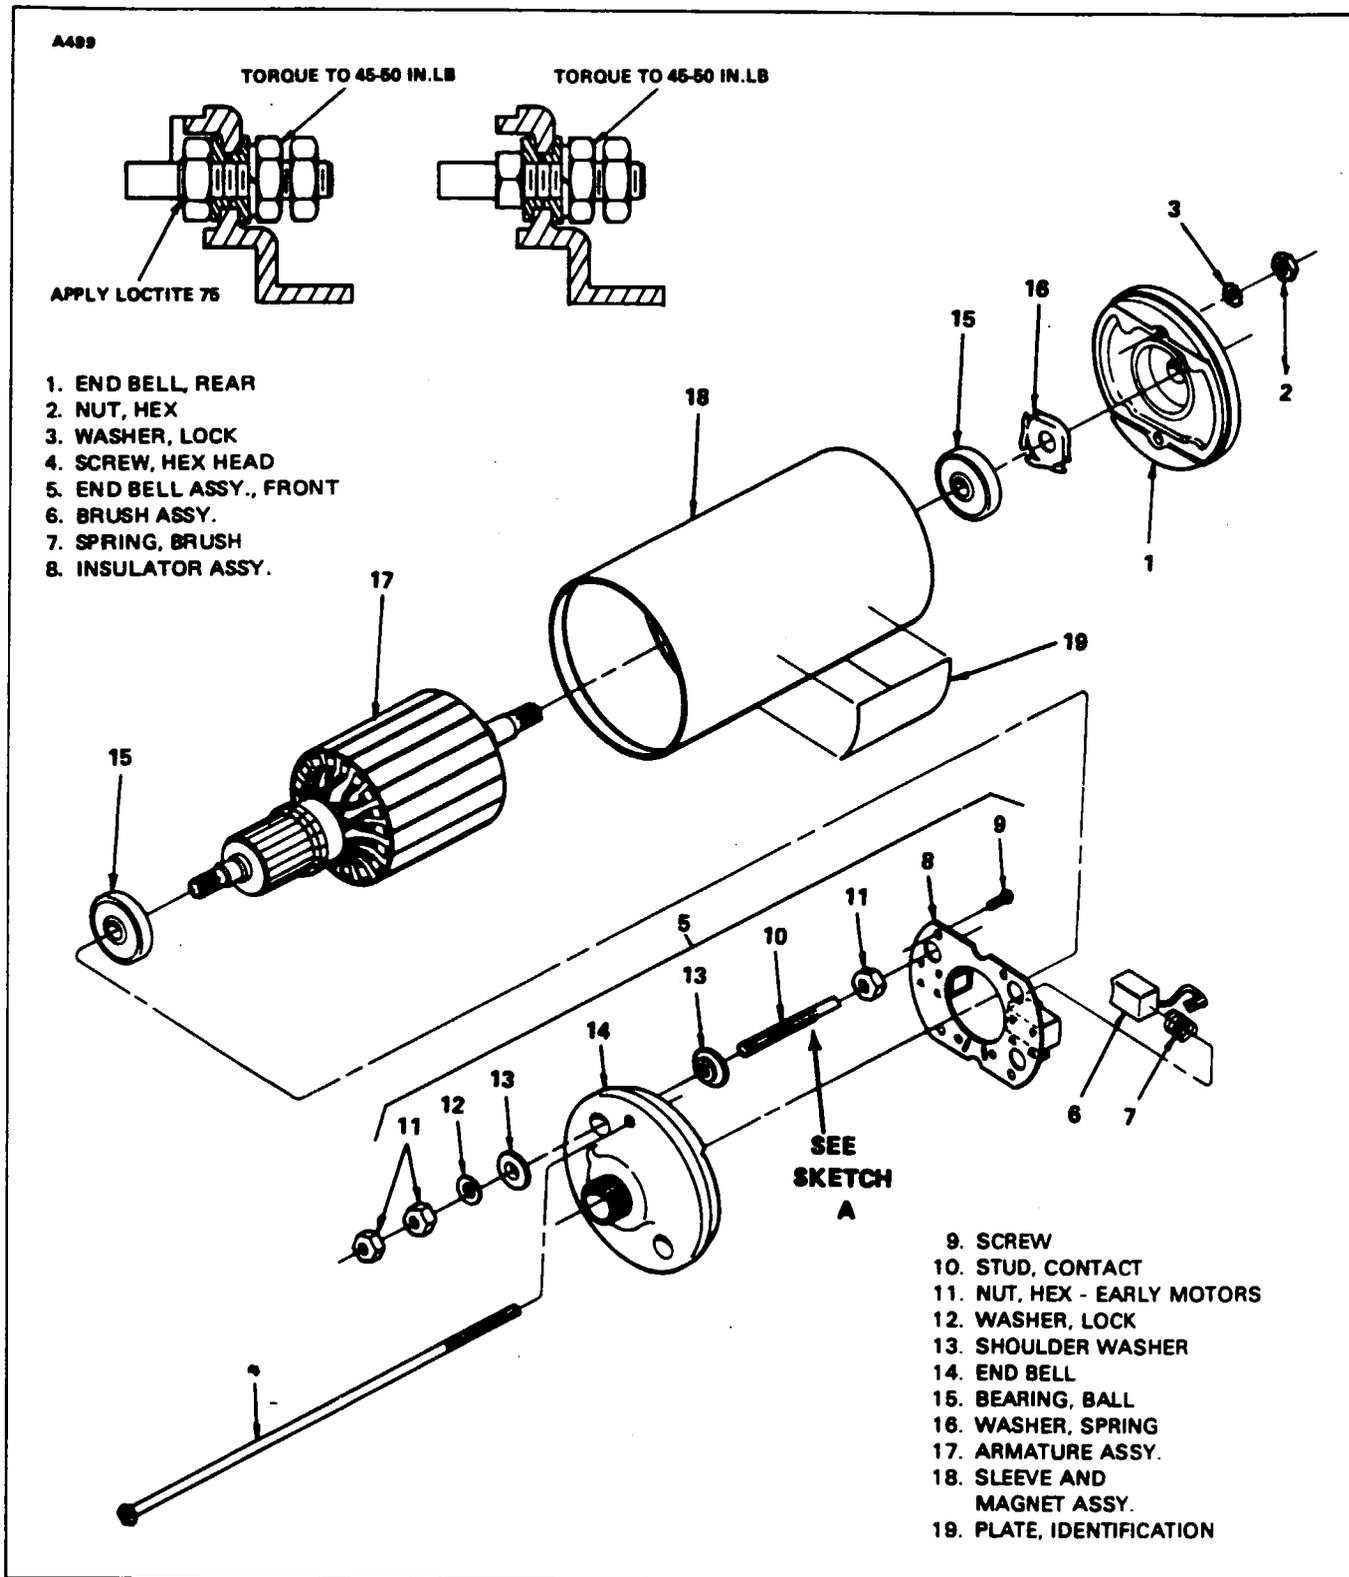

Figure 27-25. Motor Assembly, Exploded View
**DISASSEMBLY OF FLAP ACTUATOR MOTOR.** (Refer to Figure 27-25.)
**ASSEMBLY OF FLAP ACTUATOR MOTOR. (Refer to Figure 27-25.)**